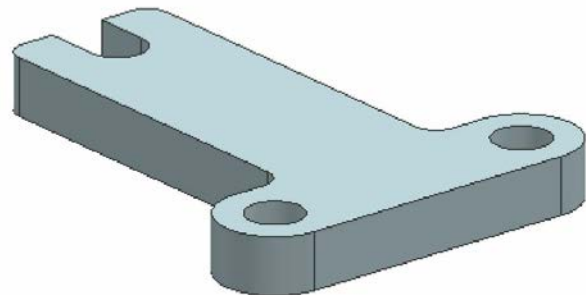

Figure 5-70 Base feature of the model
6. Choose the **OK** button from this dialog box; the base feature of the model is created, refer to Figure 5-70.
7. Hide the sketch and the default datum planes. The base feature after hiding the sketch and the default planes is shown in Figure 5-70.